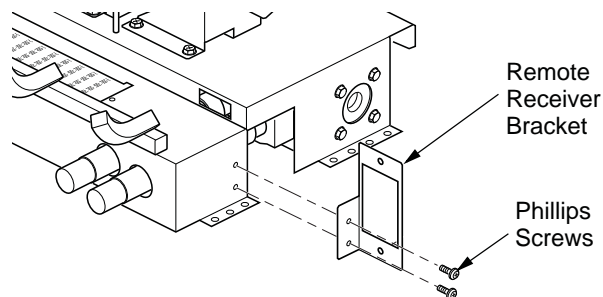

Figure 18 - Installing Remote Receiver Bracket
6. Install receiver bracket to base with phillips screws provided in hardware kit as shown in Figure 18.